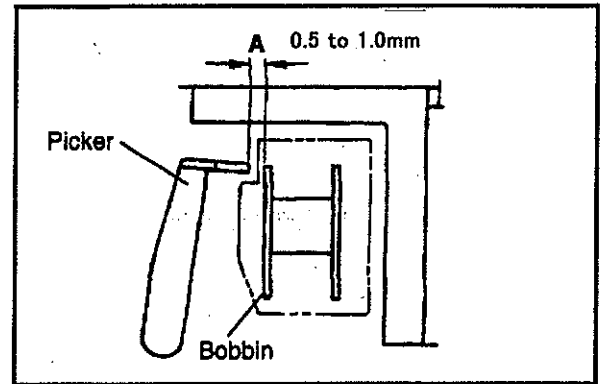

FIG.1
- (1) Remove the work table.(Fig.1).
- (2) When the picker solenoid is on, clearance A between the picker tip and the bobbin must be 0.5 to 1.0mm (Fig.1).